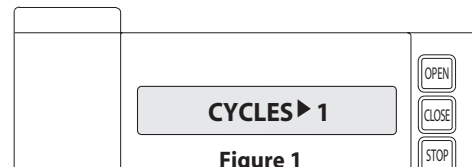

Figure 1
- 2) Press SCROLL  (up or down) until display reads "CYCLES>1,2,3 etc. where the number is the number of open/close cycles the operator has performed. **Figure 1.**